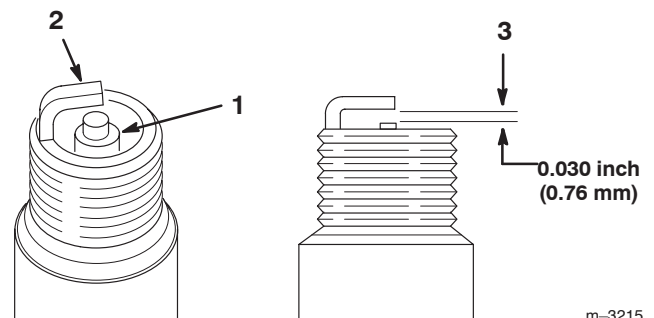

Figure 56
1. Look at the center of the spark plugs (Fig. 56).
2. Check the gap between the center and side electrodes (Fig. 56) and bend the side electrode, if the gap is not correct.